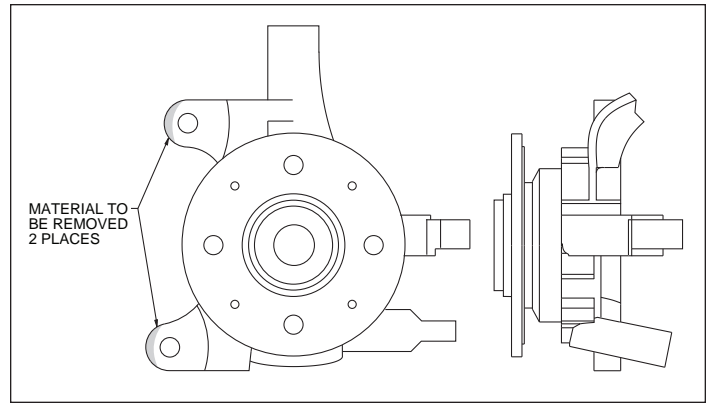

Figure 3. Spindle Modifications
- There are spindle modifications that need to be performed before installation of the Wilwood caliper bracket. Please reference Figure 3, page 4. These modifications should be performed by a qualified machinist.
- These modifications should be performed by a qualified machinist. Refer to figure 3, right. Only one view of the spindle is shown, but the modifications need to be performed on both spindles.